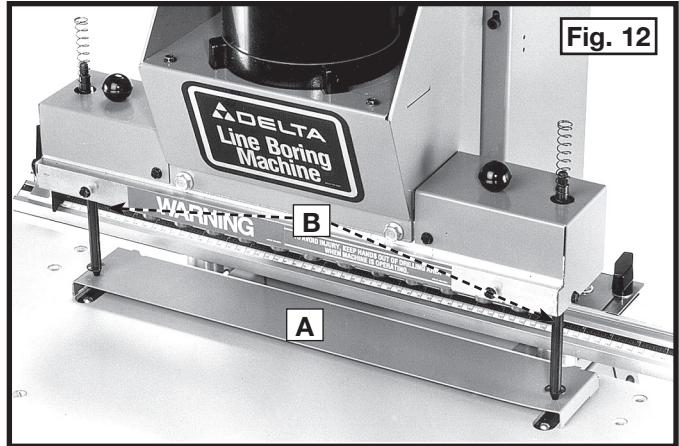

Fig. 12
3. Lower the indexing pins (B) Fig. 12 until the points of the indexing pins engage the two holes in the gauge (A).